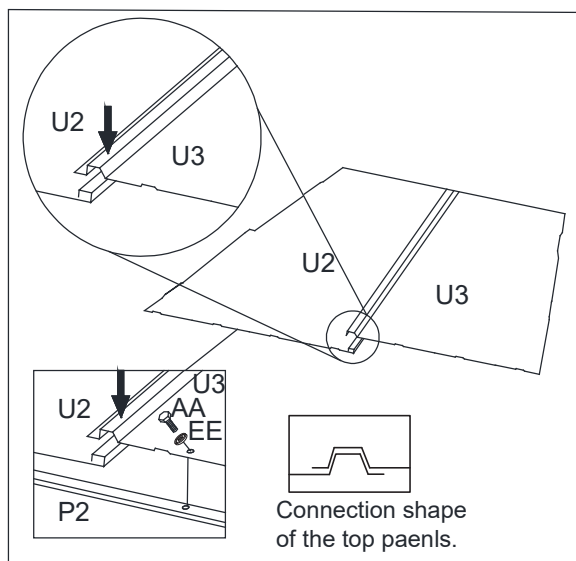

Figure 12-1
12.1: Assemble Roof Vent Panels by placing Roof Vent Panel - Long Side (Left) (U2) on the Roof Vent Frame then placing the Right Roof Vent Panel (U3) on the Roof Vent Frame and secure to Long Side of the Roof Vent Frame (P2) using Bolt (AA) and Plastic Washer (EE). Note: The Right Roof Vent Panel (U3) must overlap the Roof Vent Panel - Long Side (Right) (U2). See Figure 12-1.